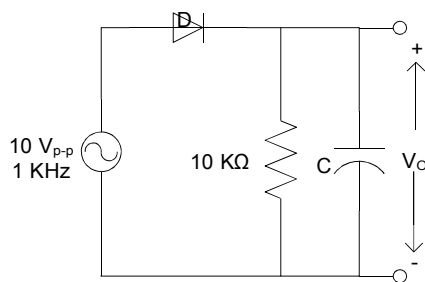
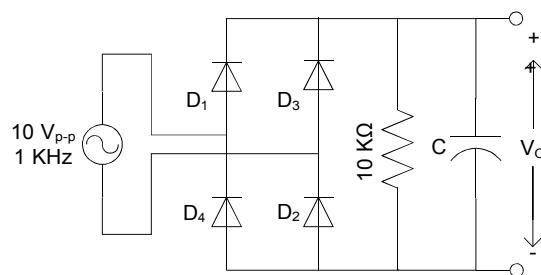

Figure 2.4: Half wave
Figure 2.5: Full Wave
1. First, connect the circuit in breadboard as shown in figure 2.4 without any capacitor.
7. Repeat steps 1-6 for Figure 2.5 .
Half Wave Rectifier (Fig 2.4)	Full wave Rectifier (Fig 2.5)
a) Input-output without capacitor (fig 2.4)
d) Input-output without capacitor (fig 2.5)
b) Input-output with $0.22\mu\text{F}$ (fig 2.4)
e) Input-output with $0.22\mu\text{F}$ (fig 2.5)
c) Input-output with $10\mu\text{F}$ (fig 2.4)
f) Input-output with $10\mu\text{F}$ (fig 2.5)
1. For Fig 2.4 and Fig 2.5, draw the input-output wave-shape without capacitor, with $0.22\mu\text{F}$ capacitor and $10\mu\text{F}$ capacitor.